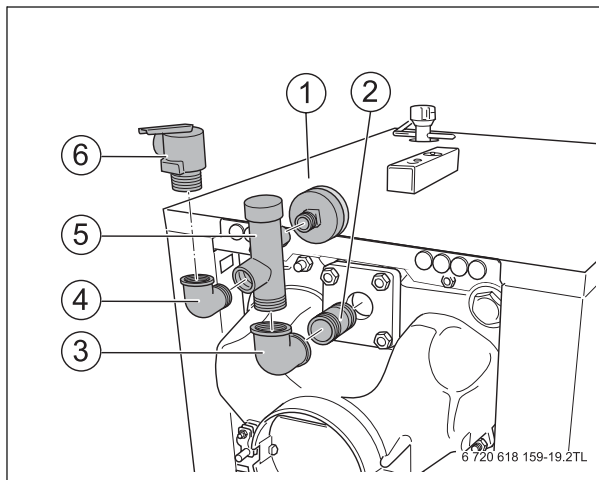

Fig. 25 Installing B-Kit
- Seal pressure relief valve connection (→ Fig. 25, page 28) and all other open connection with blind plugs.
- Installing the pressure relief valve (→ Fig. 25, page 28)